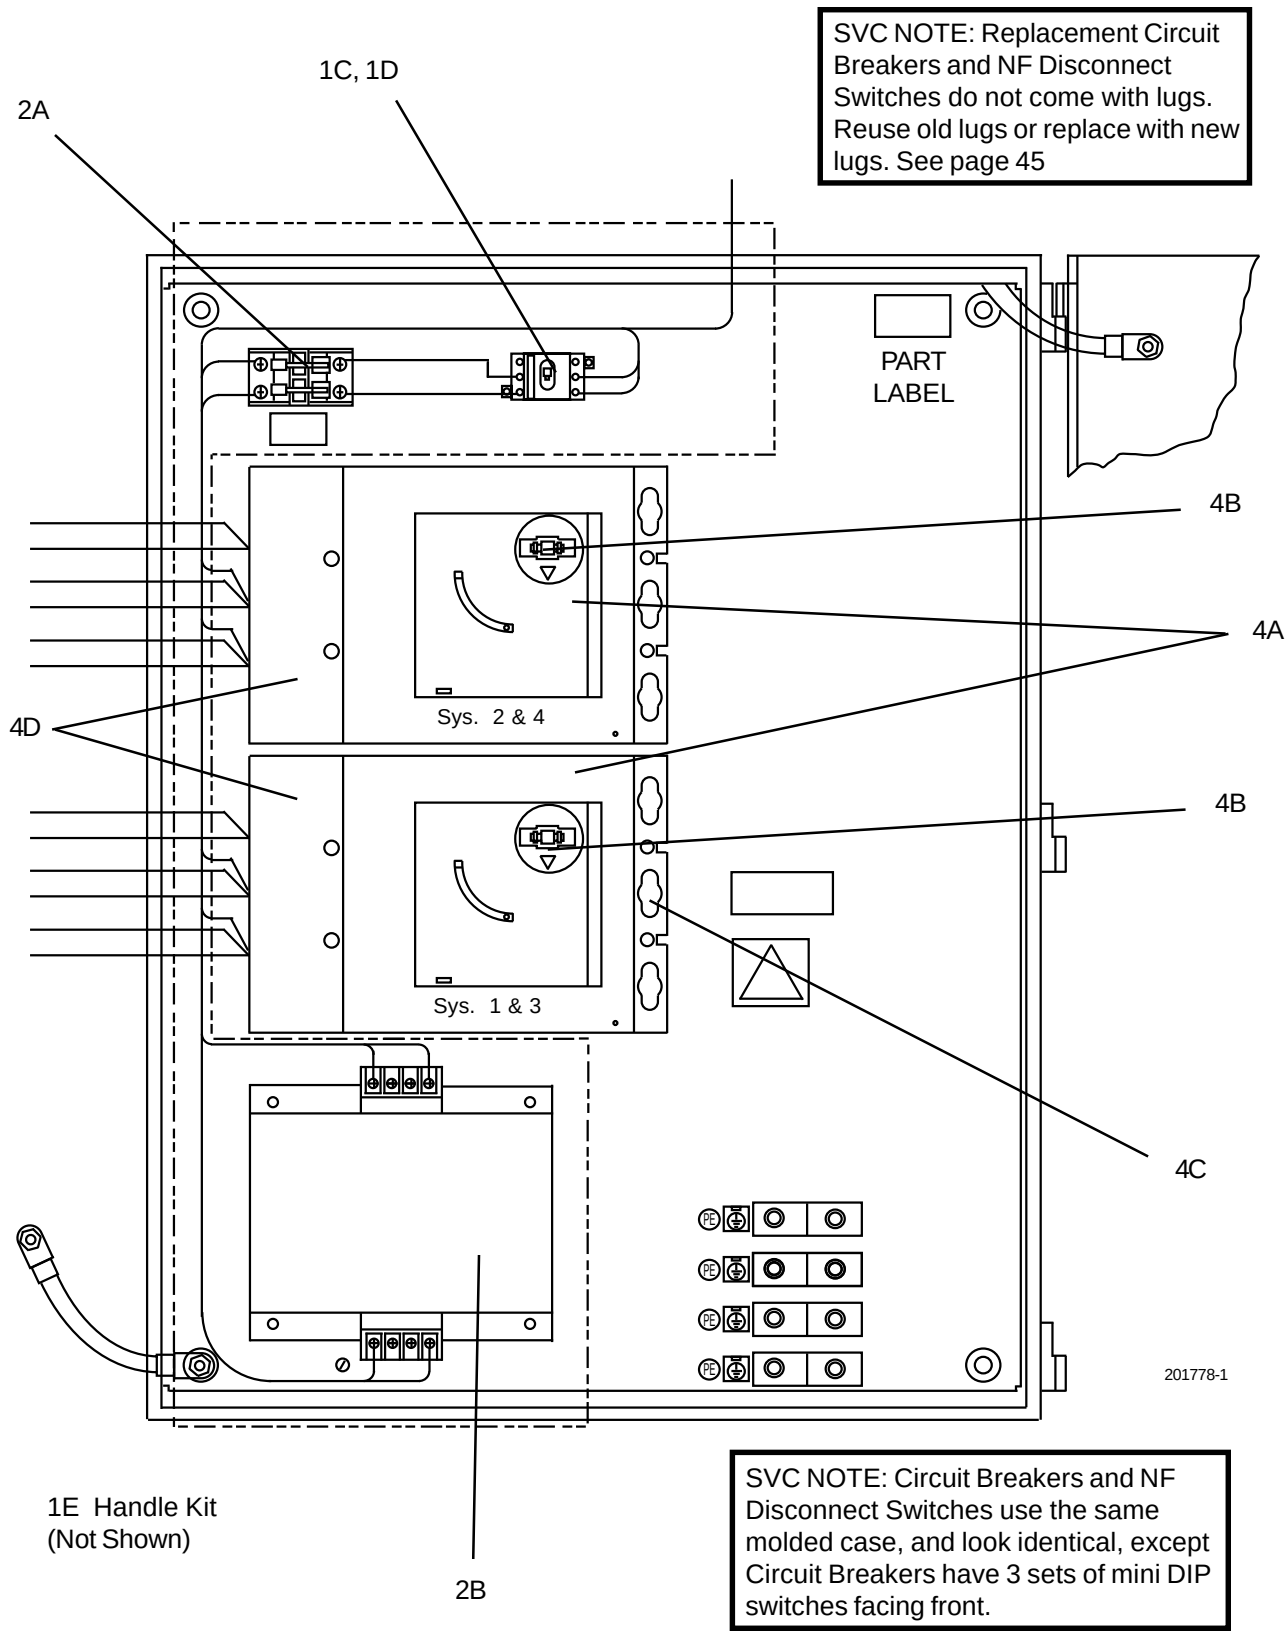

FIG. 25 – OPTION PANEL SHOWN WITH CIRCUIT BREAKER OR NON-FUSED DISCONNECT SWITCH (REF. TABLE 21, PAGE 44)
TABLE 20 – OPTION PANEL IDENTIFIERS (TO IDENTIFY REPLACEMENT PART NUMBERS, SELECT PANEL IDENTIFIER NUMBER BELOW, THEN REFER TO HIGHLIGHTED ROW ON TABLE 21, AND FIGS. 25 AND 26 ON PAGES 44 - 46).
* Note: To find Option Panel Identifier, See FIGURES 25 and 26 for Part Label location.
TABLE 21 – OPTIONS PANEL COMPONENTS (SEE FIGS. 25 AND 26, PAGES 45 AND 46)